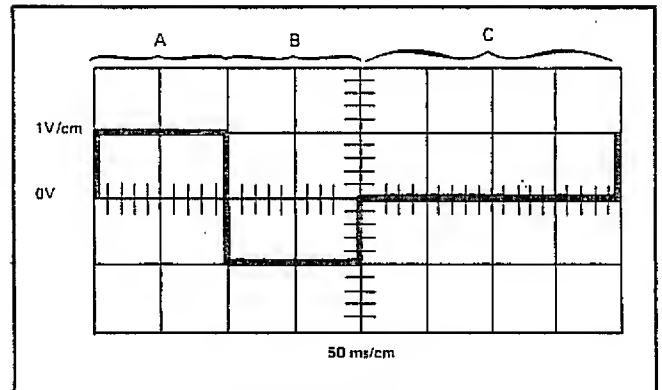

Figure 4-3. TP1 WAVE FORM
- Connect the scope input to TP1 and return to the INPUT LO terminal. The scope display should be as shown in Figure 4-3.